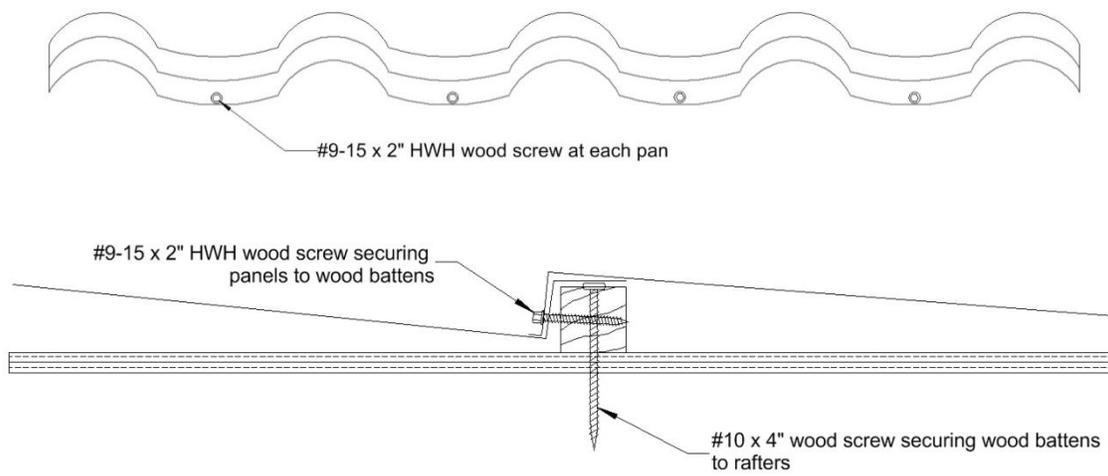

Figure 1: Terrabella Verona® Panels Fastened to Wood Battens
**Terrabella Verona Panel Attachment:** The panels are secured to the battens with four No. 9-15 x 2" long HWH self-drilling screws per panel. The screws are installed 7-1/4" from each edge of the panel and spaced 8-7/8" between the edge screws at the vertical section of the head lap securing the panel to the wood batten. Refer to Figure 1 for attachment details.